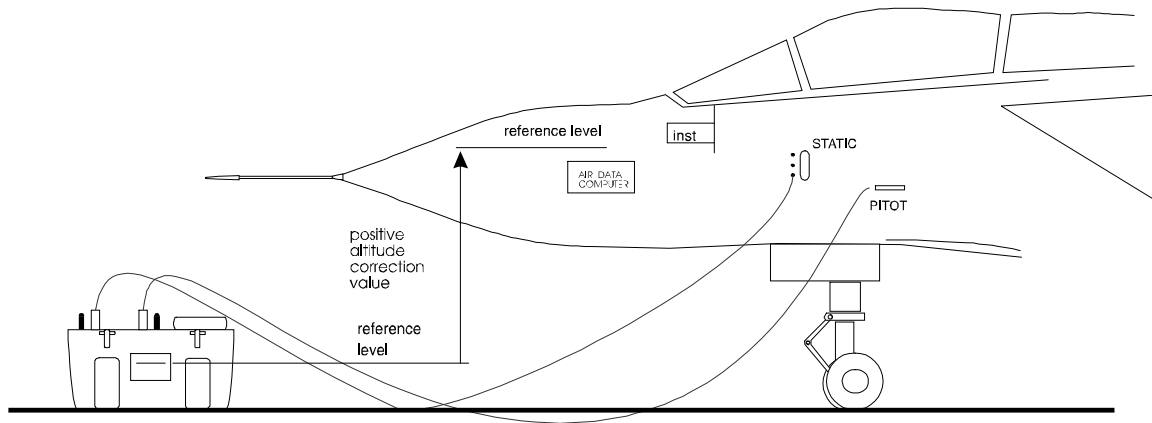

Figure 19 DPS500 Altitude Reference
1. Determine the distance rounded to the nearest foot between the reference line on the DPS501/500 (see Figure 4, Item (12), on Page 6) and the pressure reference line for the aircraft or the instrument under test. Examples of this distance are shown in Figures 19 and 20 on the next page.